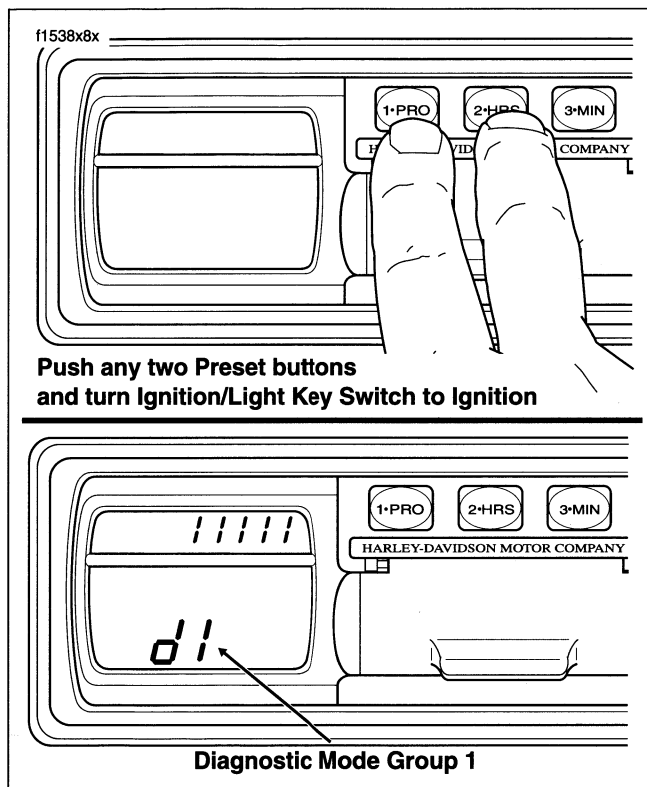

Figure 47. Access Radio Diagnostic Mode
1. Push any two Preset buttons on the front panel of the radio. See upper frame of Figure 47. With the buttons depressed, turn the Ignition/Light Key Switch to IGNITION. Diagnostic Group 1, the first of five diagnostic screens, appears on the LCD display, as indicated by the "d1" in the lower portion. See lower frame of Figure 47.